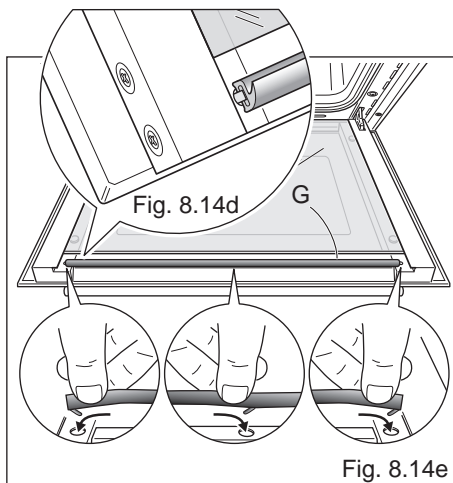

Fig. 8.14e
- Reassemble the seal "G" in the correct way (fig. 8.14d) by hooking the no. 3 fixing hooks in the proper holes (fig. 8.14e).